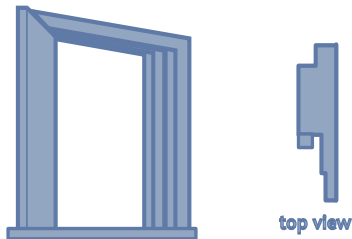

Figure 16: Adhesive-backed foam rubber strips.
- If you're using **adhesive-backed foam rubber** strips, measure the tops and sides of your doors to find out how much you should buy. It generally comes in rolls. Cut the strips to size and stick them to the inside face of the jamb, making sure not to leave any gaps at the corners where air could enter, (Figure 16).